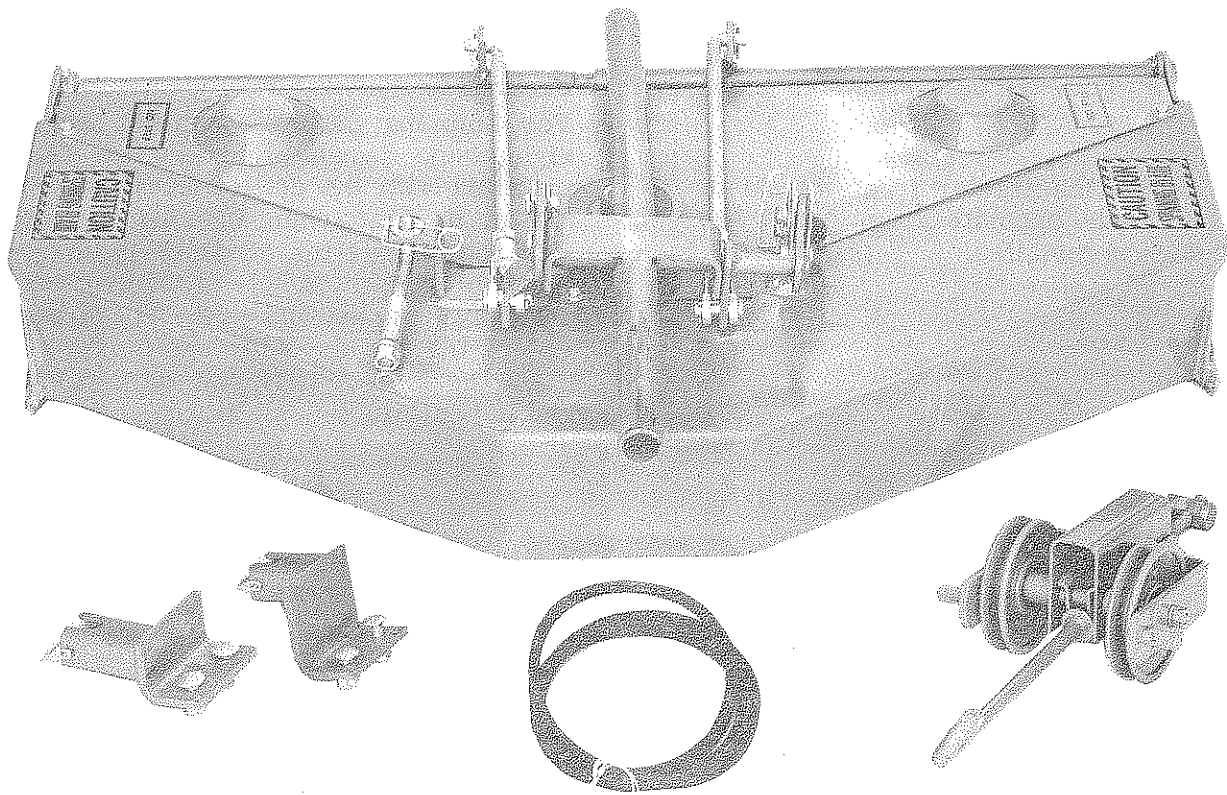

Figure 10. Mower Removed from Shipping Carton
- B. Before mounting the mower, lay out the individual parts as illustrated in Figure 10. To simplify the original installation, all components are preassembled as far as practical and the attaching hardware is installed in its proper location.